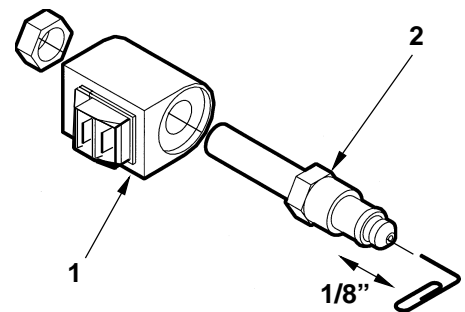

FIG. 11
4. Check the Valve Stem by removing the Coil Assembly (Item 1, FIG. 11). With platform supported, unscrew the Valve Stem (Item 2, FIG. 11) from the Pump. Push on the plunger located inside the Valve Stem by inserting a paper clip in the end. If the Plunger does not move freely (approximately 1/8") replace the Valve Stem.